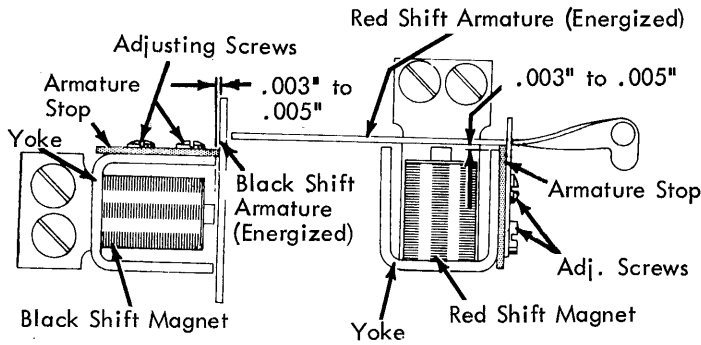

FIGURE 270. Armature Stops
- b. With the armatures energized, position the armature stops so that the armatures clear the magnet yoke by .003" to .005" (Fig. 270).